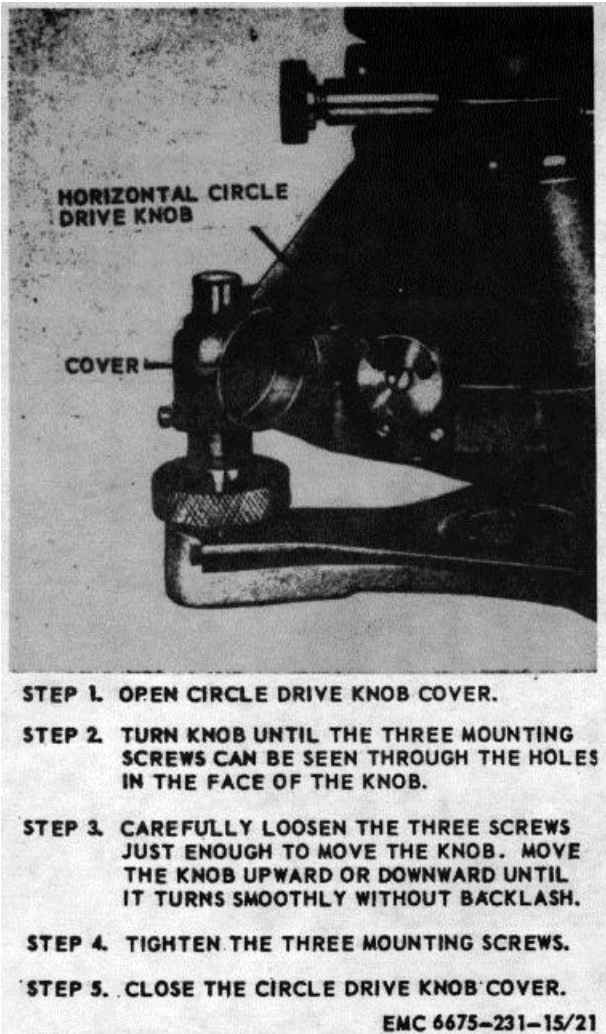

Figure 21. Horizontal circle drive, adjustment.
f. *Horizontal Circle Drive.* Refer to figure 21 and adjust the horizontal circle drive.